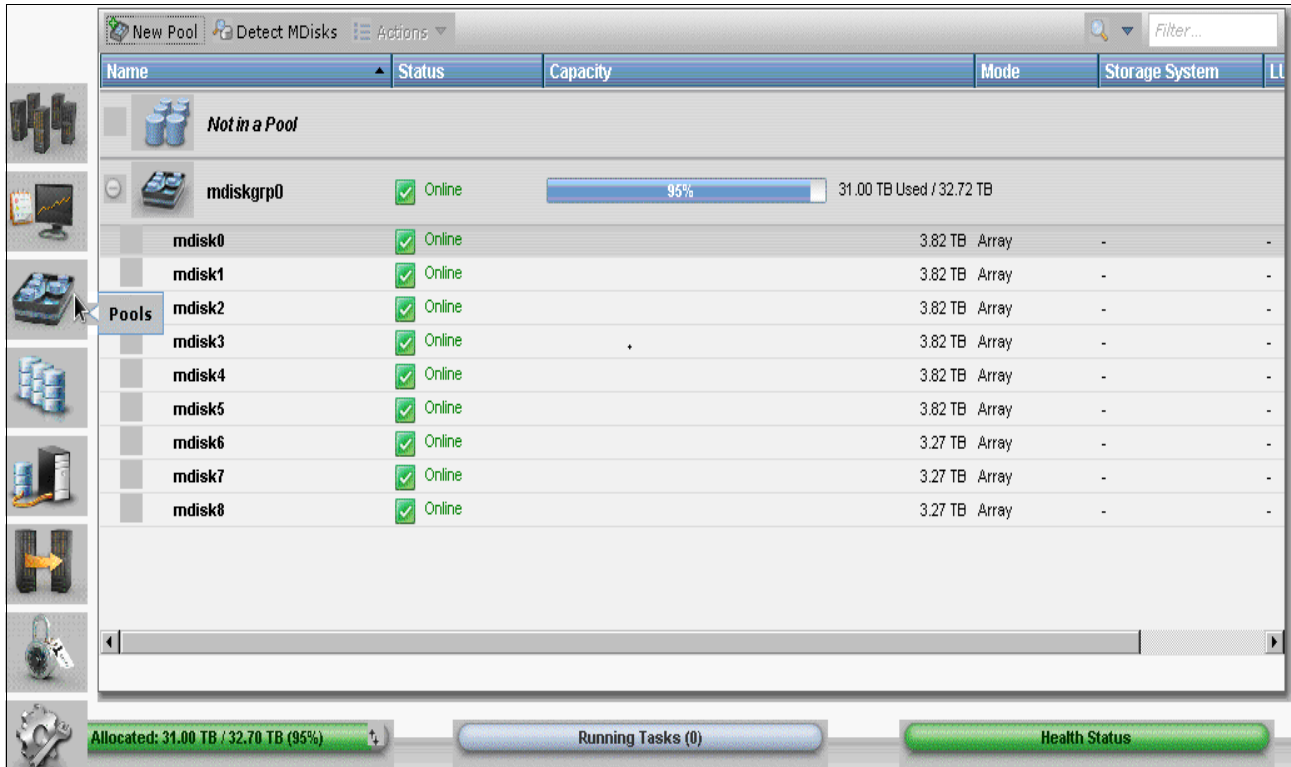

Figure 2-18 Selecting the IBM Storwize V7000 Pools panel
- Go to the storage pool panel to create a storage pool. Click the **Pools** image button, as shown Figure 2-18.